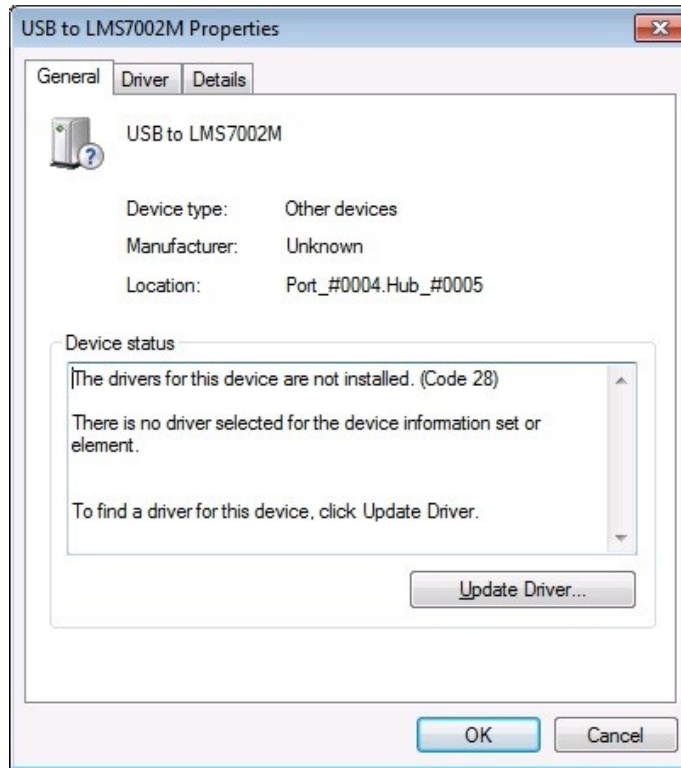

Figure 43 Device properties
4. When a new window pops-up press **Update Driver**, see *Figure 43*.